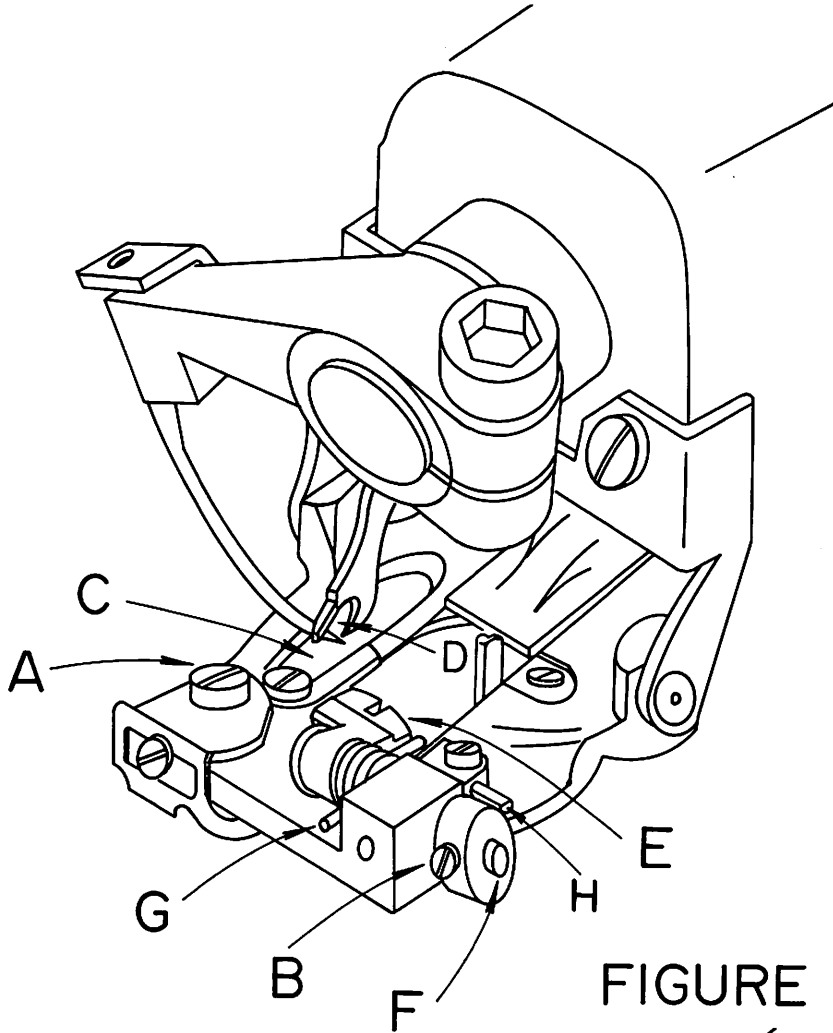

FIGURE 8
6. Once the looper is timed with respect to the needle as outlined in paragraphs 2 thru 5 above, slowly turn the handwheel in a direction away from the operator, until the looper approaches the edge of the looper slot. (Point "C" in Figure 8) in the presserfoot. At this point make sure the small prong of the looper clears this edge. If it does not clear, adjust the eccentric block as outlined in paragraph 5 until the interference is eliminated.
7. Continue turning the handwheel away from the operator until the point of the needle starts to enter the area in between the looper prongs. (Refer to Point "D" in Figure 8). If the needle strikes the crotch of the looper, the looper has generally been set too far forward. Check to see if the looper has been inserted into the clamp as far as it will go. It should be inserted until the shoulder on the looper is stopped on the clamp. If this check is satisfactory, recheck the distance from the center of the looper rod fork pin to the rear face of the looper rod ball. Refer to paragraph 4 and reset if necessary. If neither of the above two measures corrects the problem, it is possible that the needle lever may be set too low and required adjustment.
1. The shoe, (item "E" in Figure 8), also known as a cloth retainer, normally will not require replacement. However, in the event of wear due to the particular fabrics being used, or if the shoe or spring suffers any damage, they may be readily replaced.
2. The first step is to remove the complete front guide assembly by unscrewing the front guide holder attaching screw (item "A" in Figure 8). Next loosen the shoe pin and the shoe eccentric barrel lock screws, (item "B" Figure 8), and slide out the shoe pin (item "F"), shoe and retaining spring (item "G"). Before removing these components it is advisable to note the manner in which the spring is assembled so that it may be reinstalled in the same way.
3. When replacing an old shoe, make sure that the replacement shoe properly fits the pin without binding and without excessive looseness. In the event that the pin has worn and does not fit the new shoe properly, it should be replaced at the same time as the shoe-pin. After replacing the shoe, shoe pin spring into shoe eccentric barrel, retighten screws (item "B" Figure 8), and check to insure that the center of the shoe is lined up with the center of the rib. Also insure that the shoe clears both sides of the opening of the presserfoot.
4. **In and out position of shoe** should now be checked. For light fabrics, shoe should be as close to needle as possible. For heavy fabrics with seam, shoe should be set back as far as possible from needle. To move shoe in and out turn eccentric barrel (item "I" Figure 8). After the correct location is established, be sure to tighten screws, (item "B" Figure 8).
- 4A. An additional shoe adjustment is also possible. The height of the shoe can now be controlled, (item "H" in Figure 8). This is a tapered pin and position can be adjusted so that the shoe, whenever required, can be controlled as far as elevation is concerned. By moving the tapered pin in or out the shoe can be kept from pressing down on some fabrics which require little, if any shoe pressure. By having this control, it sometimes will aid in penetration of difficult fabrics. The normal position of the shoe, when set properly on most fabrics, is that the shoe will show movement on the penetration cycle on one ply of fabric.